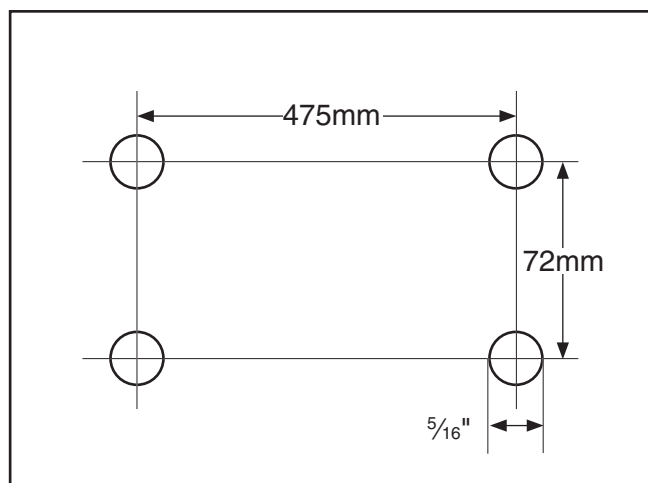

Figure 6. G8688 drill pattern.
2. Use the diagram shown in **Figure 6** as a drill pattern to drill your holes into your workbench.